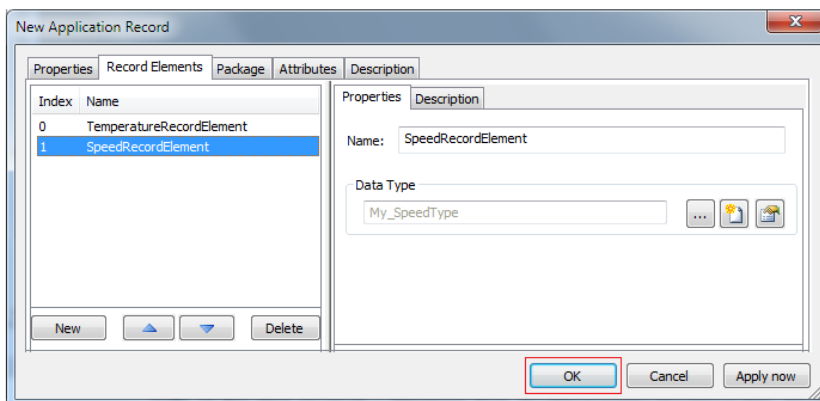

Figure 4-19 Record type creation with 2 record elements
- Enter the name of the record application data type and create 2 record elements (see Figure 4-19).